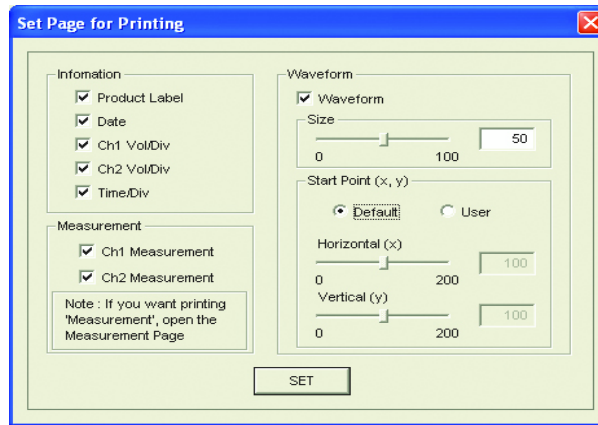

Figure 20 Print page setting
- 2 The print page property allows you to set the layout of the print page before printing. Figure 20 shows the configuration settings page for waveform display, measurement data and channel setting.